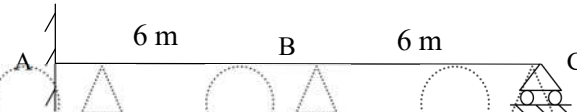

Figure 9
11. Draw the influence lines for reactions at supports and the shear force and bending moment at point B of the beam as shown in figure 9. Use 1 m as interval for the influence line ordinates and select the reaction at C to be redundant. Assume EI is constant. [10]